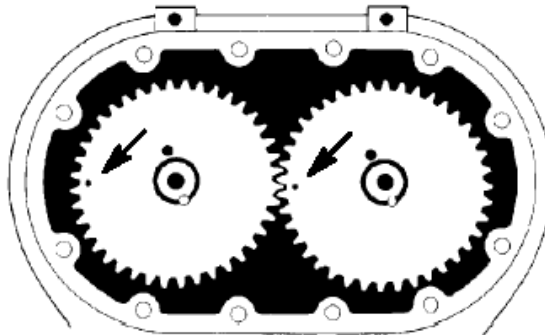

FIGURE 7-5
**Replacement gears have minimum backlash marks on the outside diameter of the gear face. These marks should be located 180 degrees from each other (see FIGURE 7-5).**